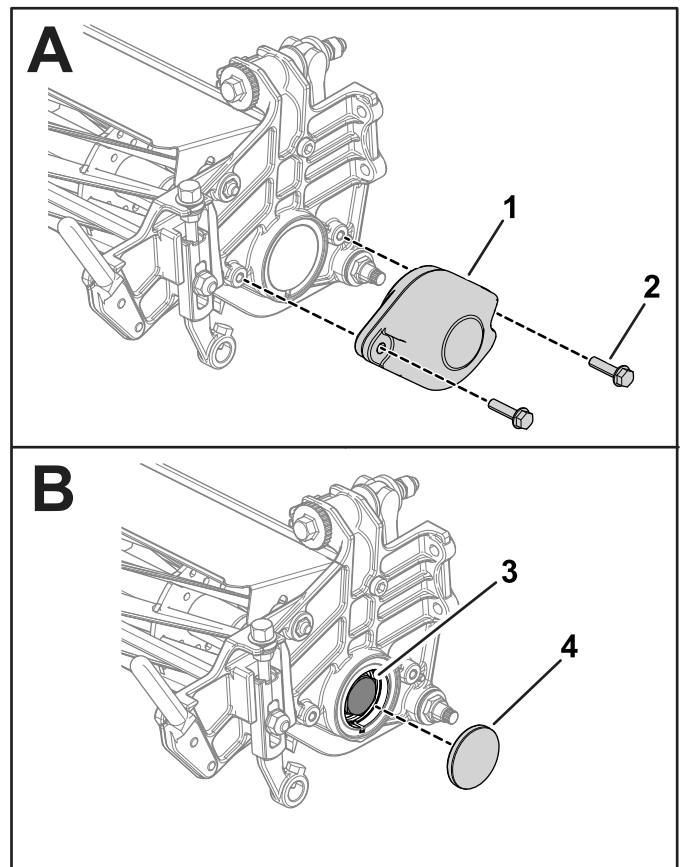

Figure 3
3. Remove the height-of-cut adjusting screws and roller-mounting screws from the height-of-cut arms (Figure 3).
4. Remove the 2 bolts (5/16 x 2-1/4 inches) from the 2 nuts (held captive by the side plate) securing the counterweight on the side plate of the cutting unit. Remove the counterweight (Figure 3).
6. Remove the cap and to expose the bearing nut (Figure 3).
7. Remove the bearing nut from the reel shaft (Figure 3).